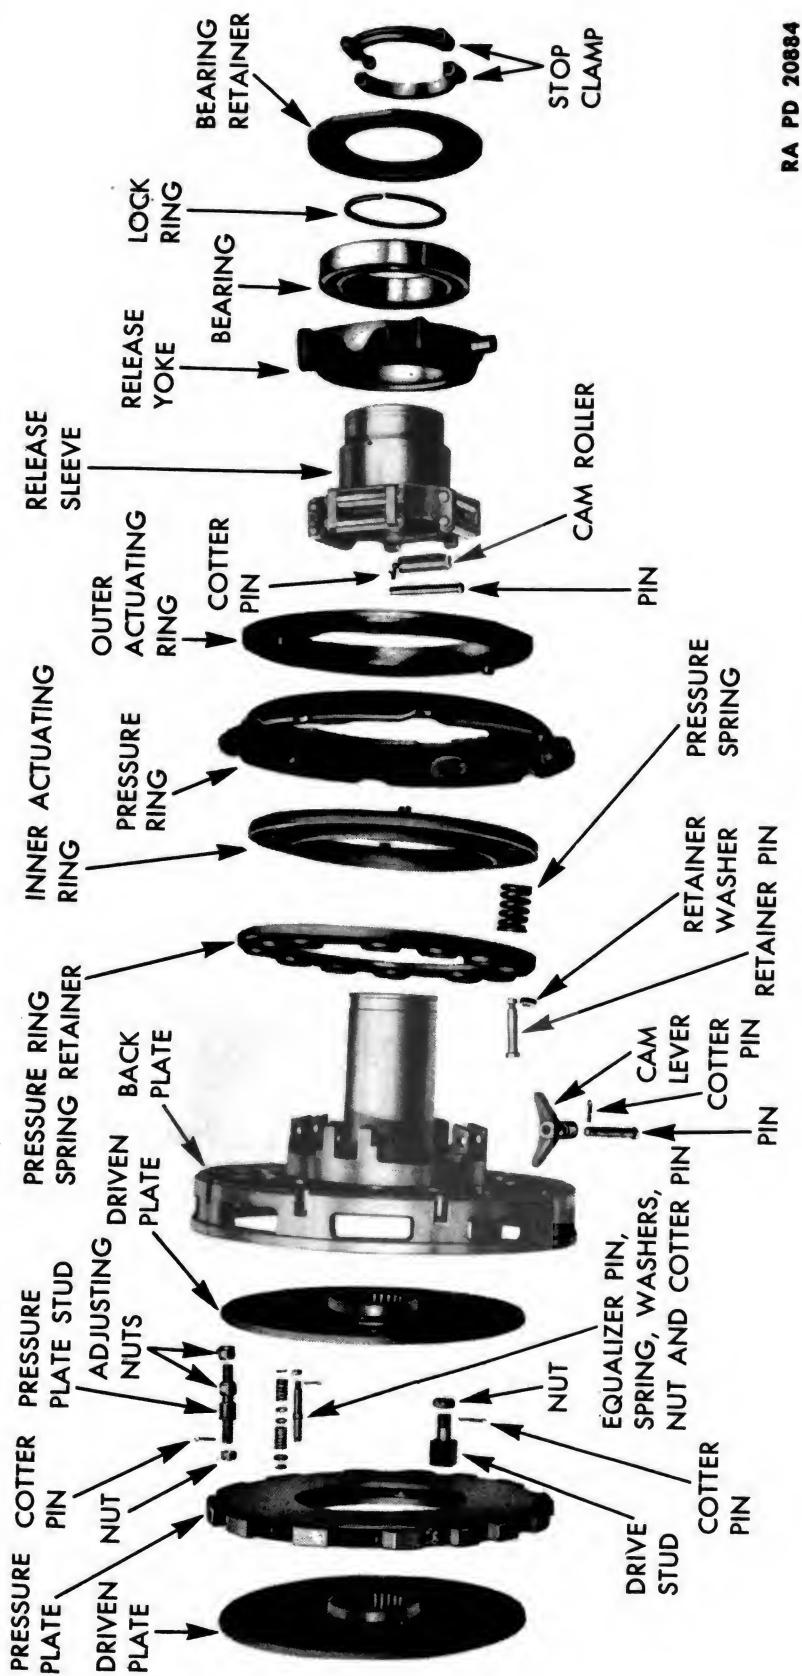

Figure 154 — Engine Clutch Components
92. CLEANING, INSPECTION, AND REPAIR (fig. 154).